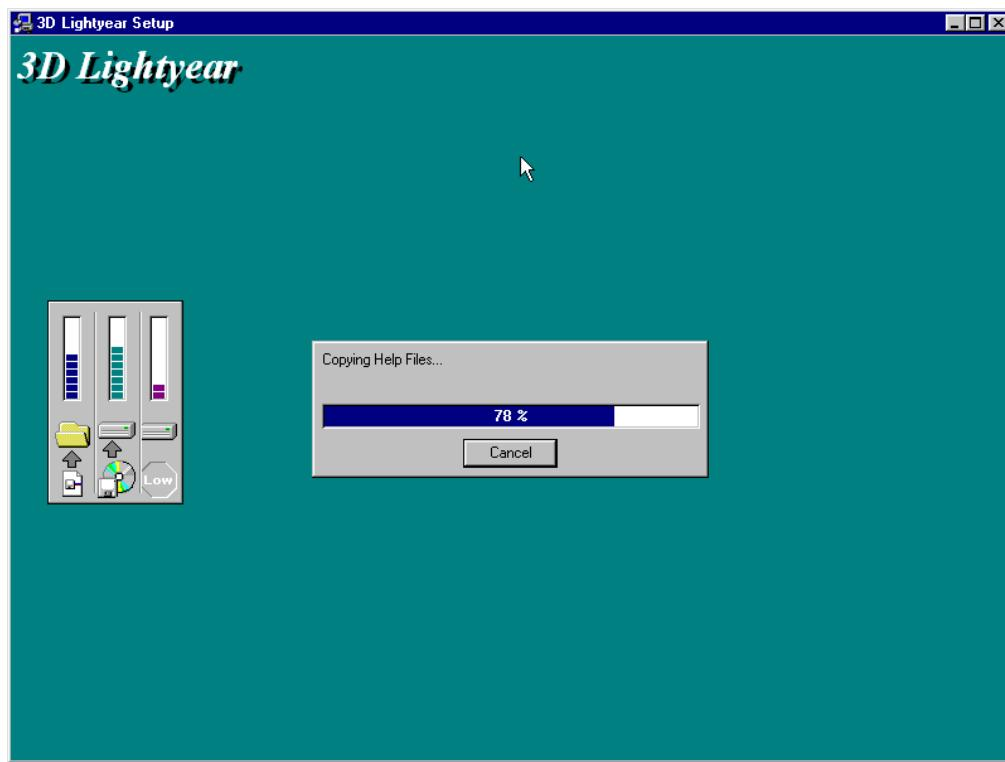

Figure 9. The 3D Lightyear software setup displays progress messages as it installs.
- 8. Follow the instructions given by the setup program on each prompt screen to complete the installation of the 3D Lightyear program. As the program installs, you will see various messages from the setup routine as files are transferred to their appropriate directories and expanded (see Figure 9).**